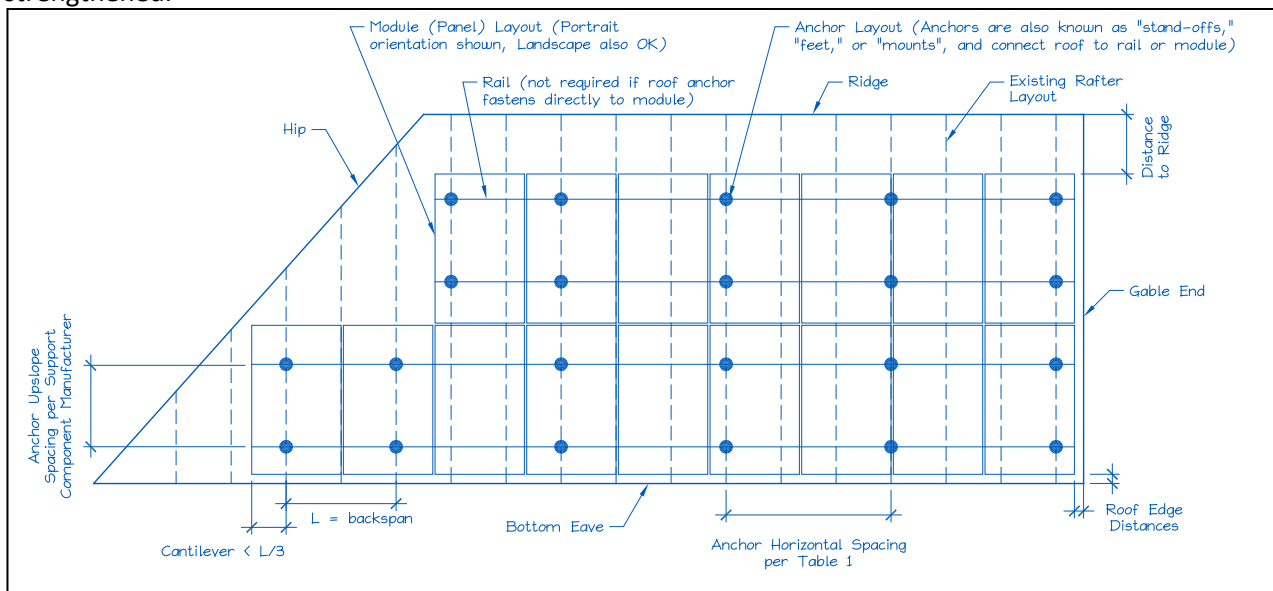

Figure 2. Sample Solar Panel Array and Anchor Layout Diagram (roof plan)
E. Is a roof plan of the module and anchor layout attached? (see Figure 2)
- 1. Proposed anchor horizontal spacing (see Figure 2): _____' - _____" (ft./in.)
1. Anchors are also known as "stand-offs", "feet", "mounts", or "points of attachment". Horizontal anchor spacing is also known as "cross-slope", or "east-west" anchor spacing (see Figure 2).